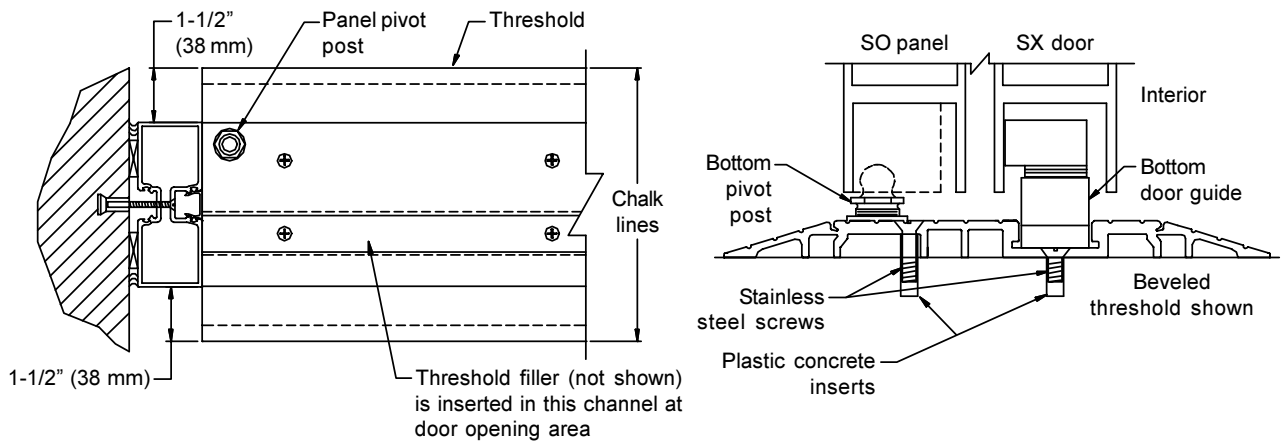
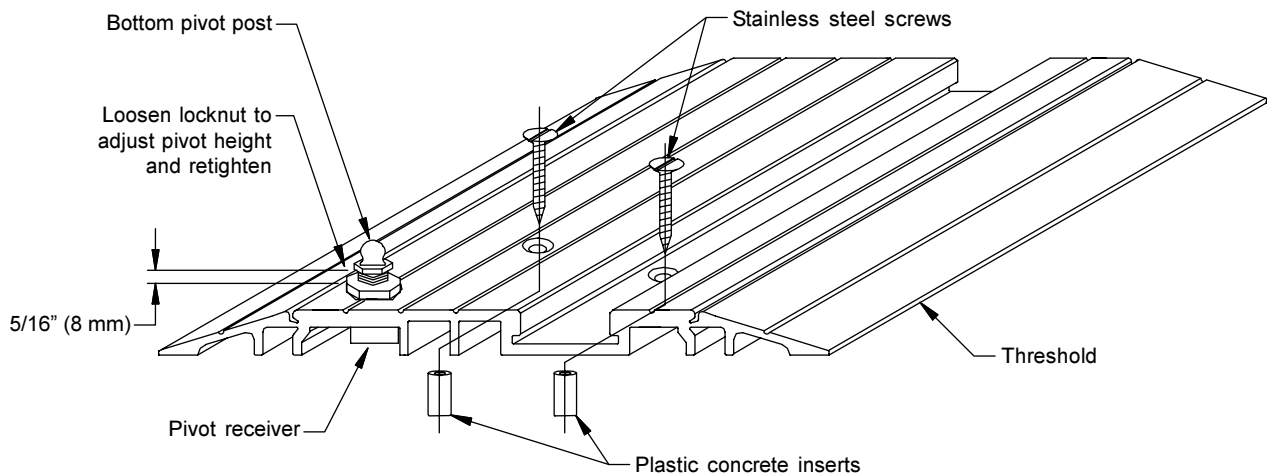

Figure 8. Installation of Threshold
Figure 9. Bottom Pivot Post Attachment
2. Verify that the panel pivot in the threshold is on the EXTERIOR side of the opening. Keep the threshold within the chalk lines, and use it as a guide to drill through holes into the floor. Place plastic concrete inserts into the drilled holes. Use the stainless steel screws from the blister pack to fasten the threshold to the floor (**Figure 8 and Figure 9**).
3. Thread bottom pivot post (from blister pack) into pivot receiver in threshold and adjust to correct height (**Figure 9**). Install the threshold filler at the door opening area with a rubber mallet.